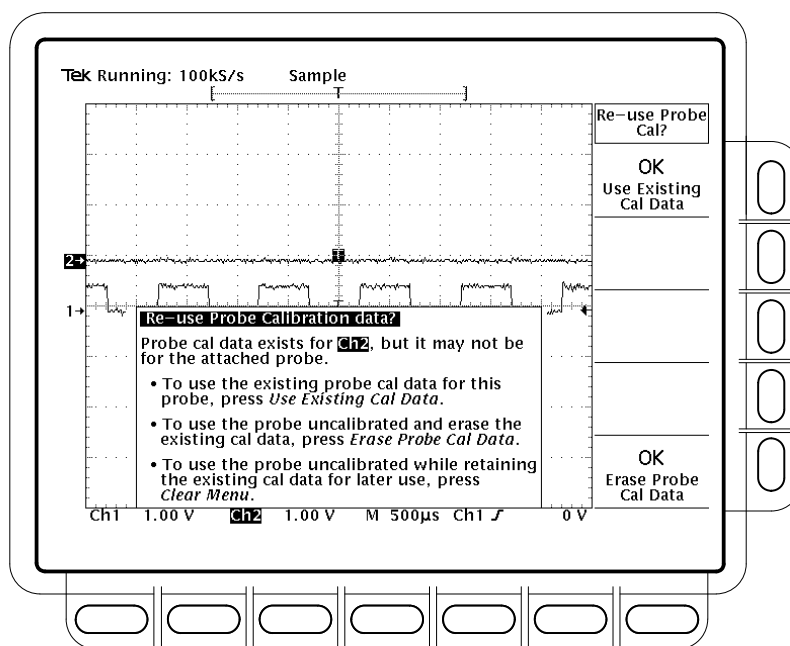

Figure 3–64: Re-use Probe Calibration Data Menu
18. After the clock icon is removed, verify the word **Initialized** changed to **Pass** under **Cal Probe** in the main menu. (See Figure 3–63.)
- If a probe has a simple oscilloscope interface and the probe attenuation factor is the same as was stored at the last Probe Cal, the oscilloscope cannot determine whether it is the same probe. Therefore, it displays the *Re-use Probe Calibration data?* menu. (See Figure 3–64.)